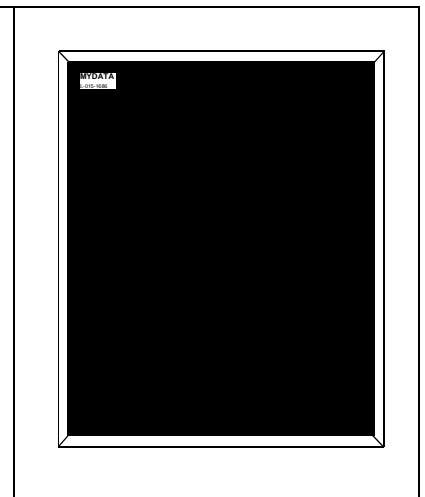
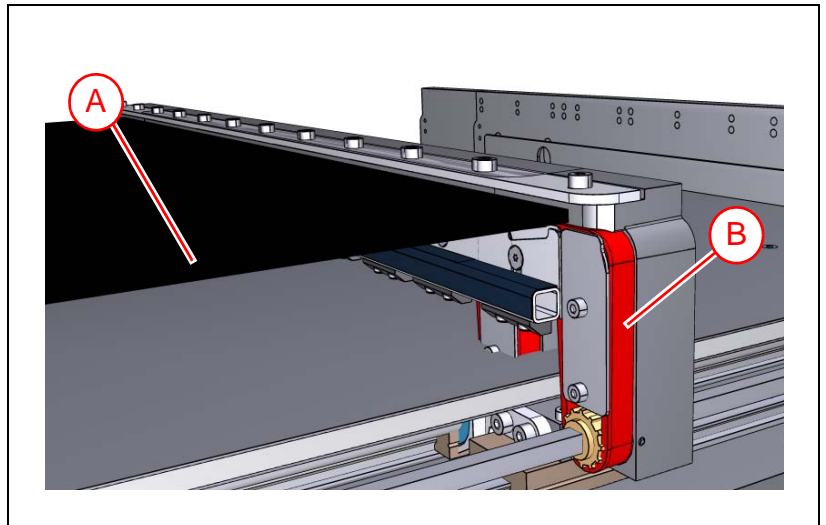

Figure 4-3. Area Calibration Background (Back).
Figure 4-5. Insert area calibration background.
- When prompted to insert board, open the front hood and place a number of support pins ('A' in Figure 4-5) on the conveyors lift table. Distribute the support pins evenly over the place area ('B').
- When ready, insert the area calibration background with the white lines facing down, see Figure 4-3. Orient the background so that the front and back edges of the area calibration background ('A' in Figure 4-5) rest on the conveyor belts ('B').